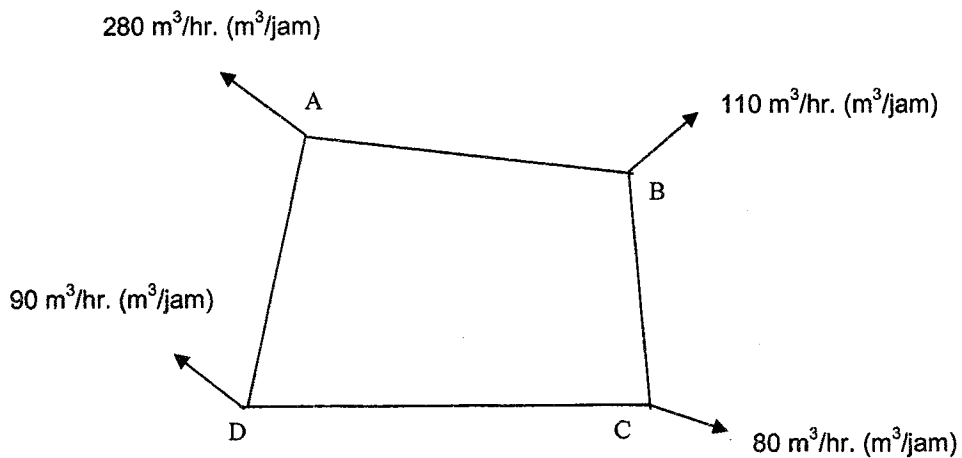

Figure 1
5. [c] Figure 1 shows a water distribution system for a housing scheme. Estimate the flow rate in each pipe branch using Hardy Cross Method and Hazen-William Formula up to two iterations. To facilitate your calculations, use a flow rate of  $100 \text{ m}^3/\text{hour}$  from point A to B as an initial flow rate assumption. Lengths of pipe AB=1500m, BC=800m, CD=200m and AD=1000m. Diameters of pipe AB=300mm, BC=250mm, CD=250mm and AD=300mm. Use Hazen-William coefficient of 100 for all pipes.